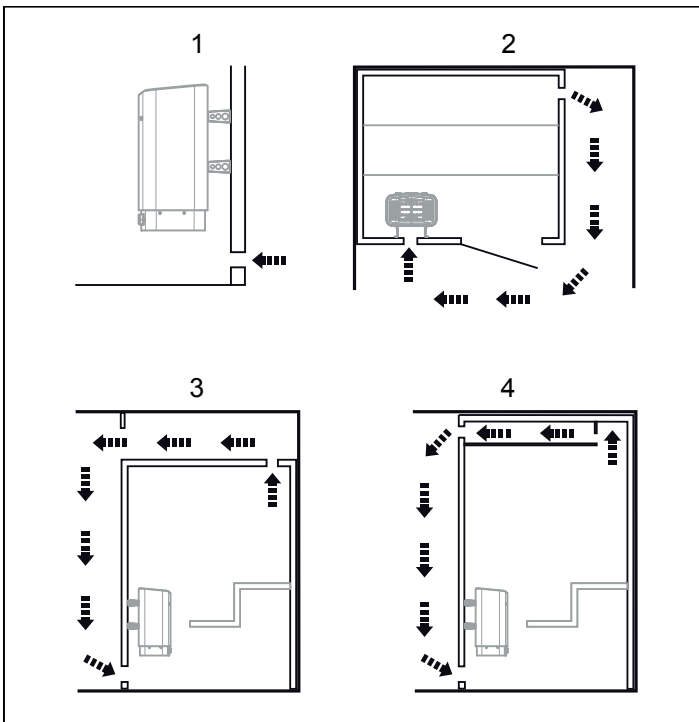

Figure 4: Positioning the inlet and outlet vents
- at the maximum possible distance from the inlet vent, e.g. diagonally (see Figure 4)
- high on the wall or in the ceiling (see Figure 4).